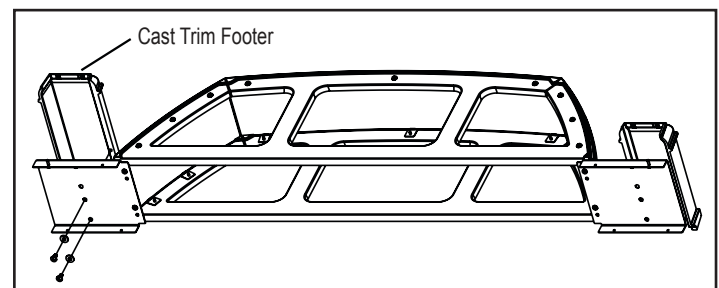

Figure 21.6
7. Attach cast footers. **Figure 21.6.**